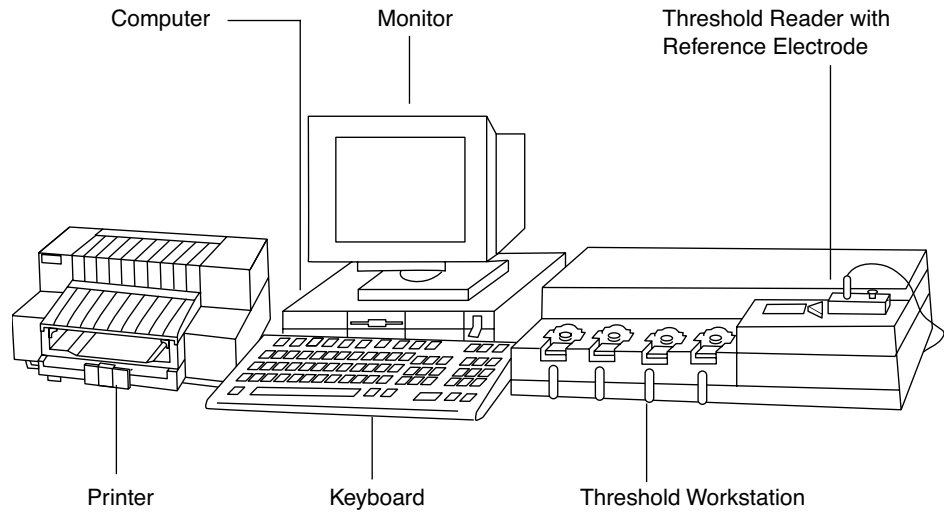
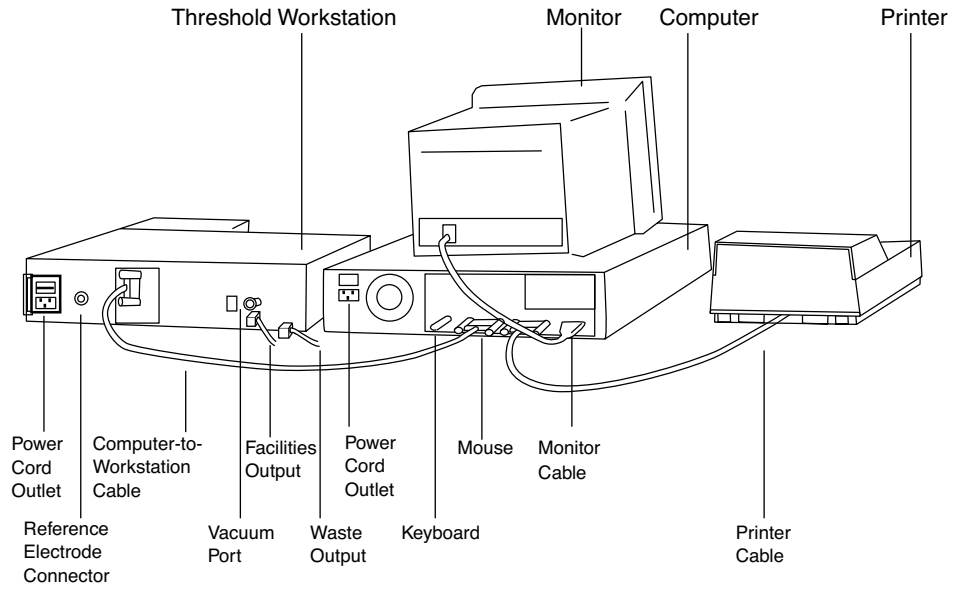

Figure 2-1: Front View of the Threshold System
Figure 2-2: Rear View of the Threshold System
- 1) Place the Workstation, computer, keyboard, monitor and printer on a work bench (Figure 2-1 and Figure 2-2).
- 2) Plug the 25-pin male connector at the other end of the cable into the back of the computer (Figure 2-2).
- 2) Plug the 9-pin female connector, at the other end of the cable, into the back of the computer (Figure 2-2).
- 2) Plug the 8-pin male connector into the back of the computer (Figure 2-2).
- 1) Connect the waste tube to the connector block in the “Waste output” port on the back of the Workstation (Figure 2-2).
- 1) Connect the Reference Electrode (microelectrode) cable to the connector, labeled “Reference Electrode,” on the back of the Workstation (Figure 2-2).